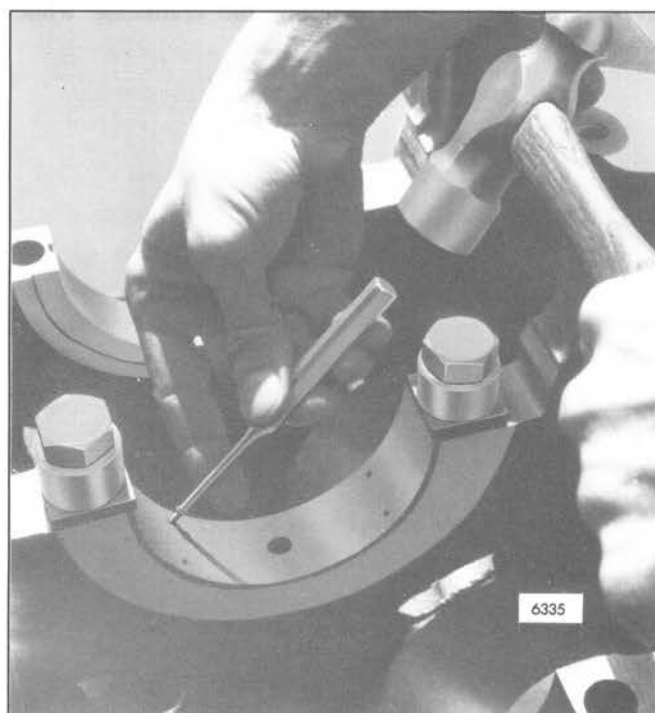

Fig. 9 – Securing the Rivets
19. Secure the rivets with a hammer and punch. Be careful not to strike the insert directly, as the insert will distort. Two or three blows on the punch are usually sufficient to secure the rivet (Fig. 9). Rivets are